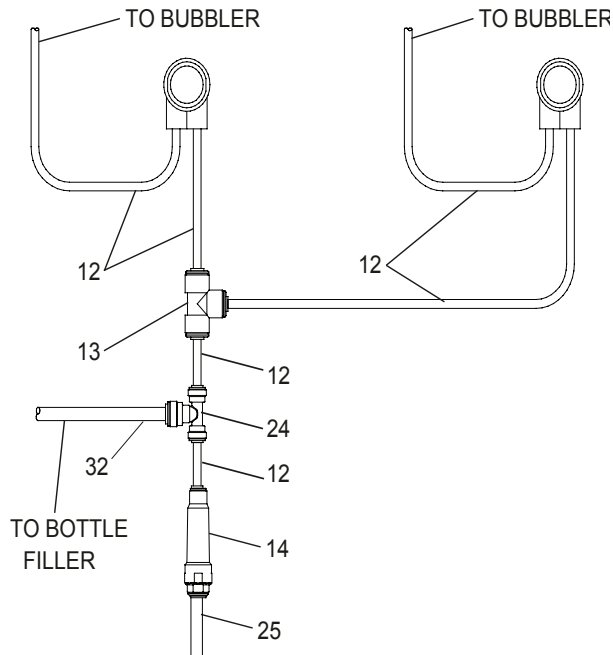

Figure 2 - HTHB-OVLSEBP-I Tube Routing
- 3a. **(For HTHB-OVLSEBP-I)** Install strainer on the input tube to the chiller (Fig. 2).